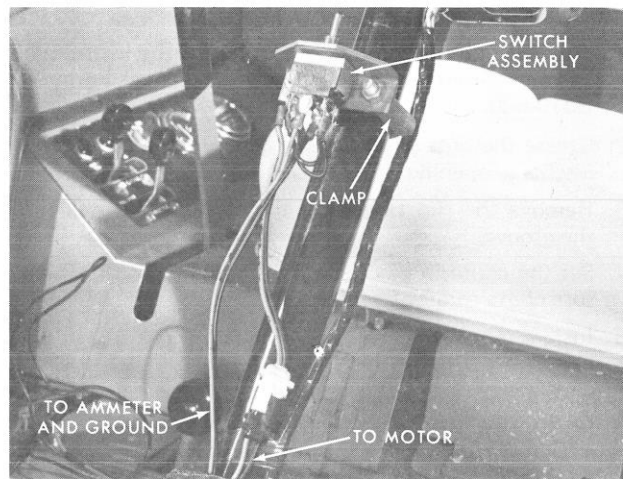

Figure 8
15. Clamp the switch assembly to the steering column as shown in Figure 8. Join the short wires to the wires leading from the motor. Cover the wire and switch terminals with electrician's tape.